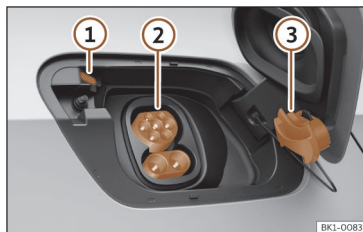

Fig. 58 Behind the battery charging cover on the rear right-hand side.
- Remove the protective cap and hang it on the hook >>> **Fig. 58 ③**
- Plug the charging station's charging connector into the charging socket >>> **Fig. 58 ②**
The LED (charging process indicator) of the charging socket flashes or flashes white >>> **Fig. 58 ①** >>> page 77
The charging process indicator on the charging socket ① flashes green >>> **Fig. 58**.
- Tap the **Stop charging** function button on the infotainment system screen. The charging process indicator located next to the charging socket ① lights up white >>> **Fig. 58**. The charging connector is unlocked.
- Place the protective cap on the charging socket's lower connection ③ >>> **Fig. 58**